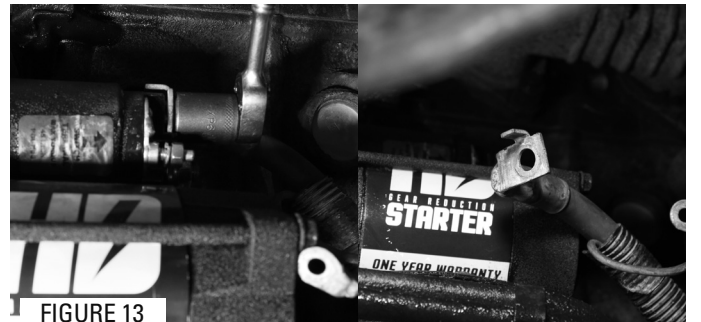

FIGURE 13
- 13** Remove main positive battery cable connection at starter using a 16mm socket and an 8mm socket on the ignition wire connected to solenoid. (Figure 13)